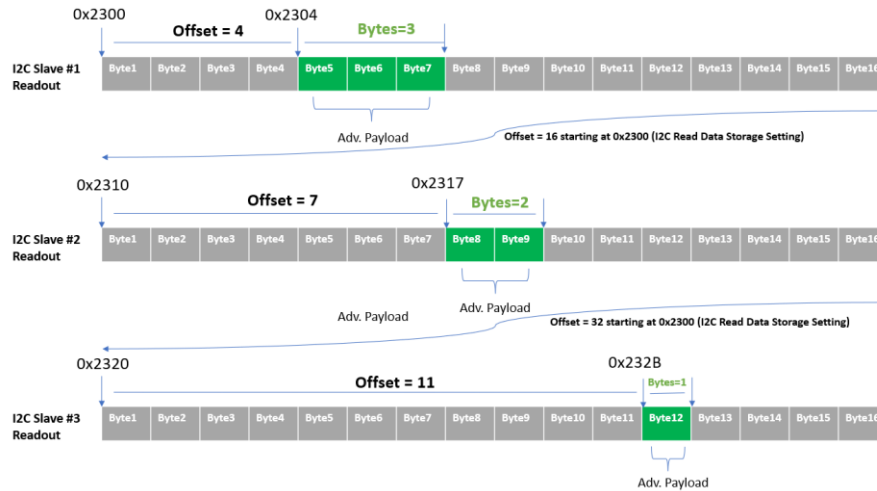

Figure 11 I2C read data as adv. payload
- i) I2C Slave #1 Read Data: The data of a I2C Slave #1 data read out with a given I2C Slave #1 read address (default address is 0x2300). Read address **Offset** and read length (**Bytes**) can be entered in bytes. The read data can be with endianness and encryption options. Only the selected read data will be advertised as the data payload. An example of such is as shown in Figure 11. The offset is 4 and Bytes is 3. The device will only advertise the 3 bytes of I2C read data starting from the address of 0x2304.
- j) I2C Slave #2 Read Data: The data of a I2C data #2 data read out with a given I2C Slave #2 read address (default address is 0x2310). Read address **Offset** and read length (**Bytes**) can be entered in bytes. The read data can be with endianness and encryption options. Only the selected read data will be advertised as the data payload as shown in Figure 11.
- k) I2C Slave #3 Read Data: The data of a I2C data #3 data read out with a given I2C Slave #3 read address (default address is 0x2320). Read address **Offset** and read length (**Bytes**) can be entered in bytes. The read data can be with endianness and encryption options. Only the selected read data will be advertised as the data payload as shown in Figure 11.